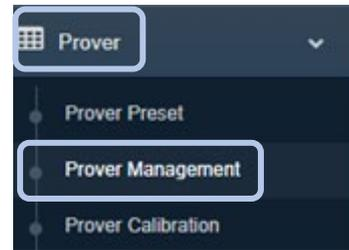

Figure 122: Prover Management menu item
1. Click the **Prover** icon in the toolbar, and click **Prover Management** (Figure 122).
- b. Click the **Prover** icon in the toolbar, and click **Prover Management** (Figure 122).